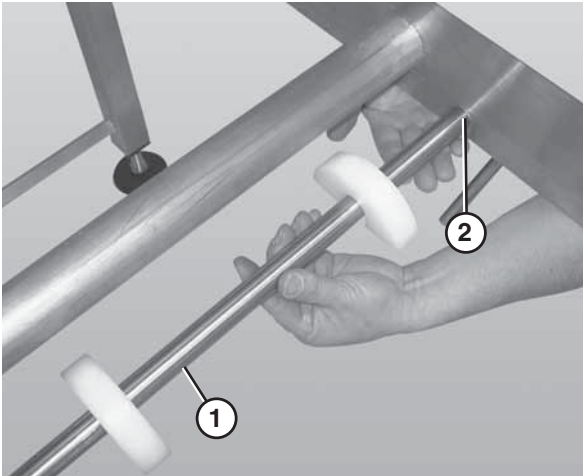

Figure 65
1. Remove the belt returns by pushing up on the return shaft (**Figure 65, item 1**) and sliding it through the large hole (**Figure 65, item 2**) in the frame.
2. Lower the opposite end of the return shaft (**Figure 65, item 1**) and slide it out of the frame.